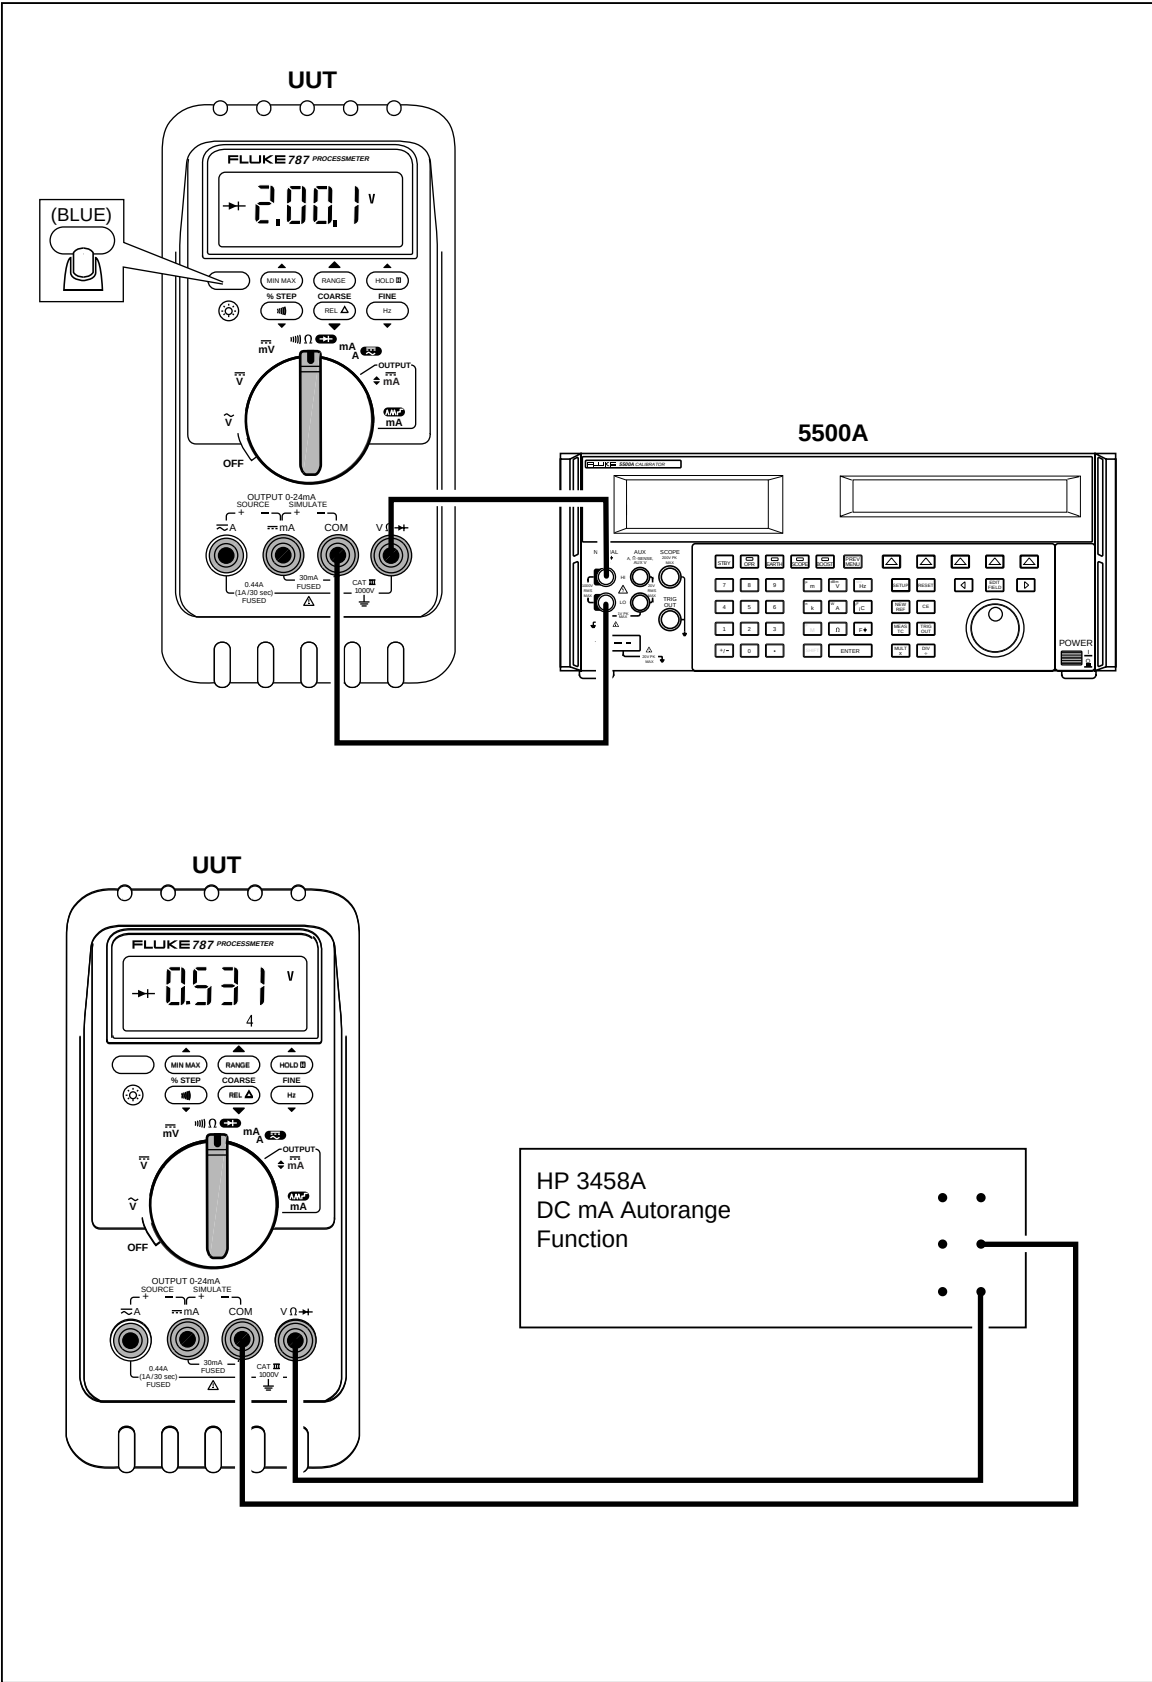

Figure 6. Diode Test Connections
4. Connect the calibrator to the **COM** and **VΩ→** terminals on the UUT as shown in Figure 6.